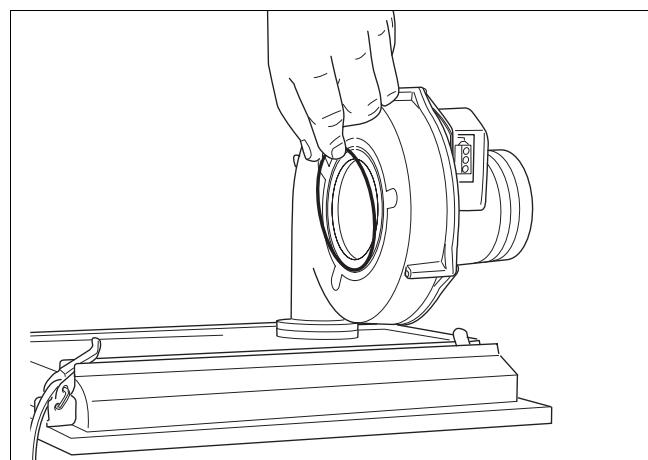

fig. 12 Placing a new O-ring on the fan unit
- Install the venturi and gas valve of the conversion kit on the fan unit using a new O-ring (fig. 12) and follow the instructions above in reverse order.